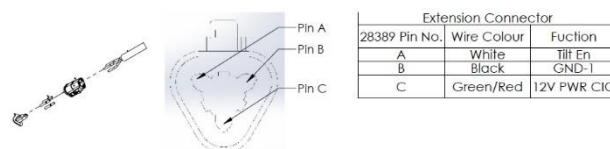

Figure 135
- The control box harness Figure 135